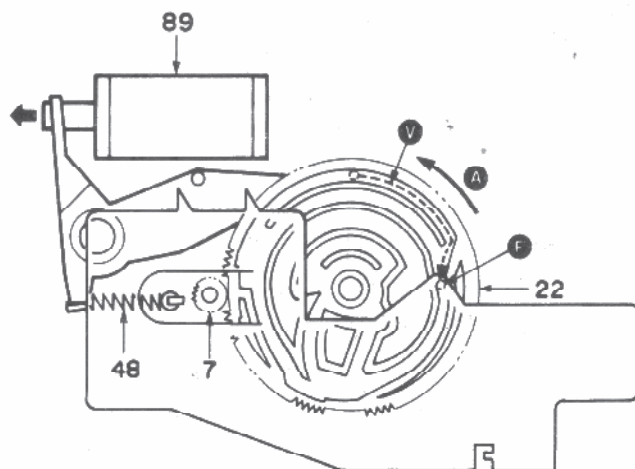

Fig. 15
- 1-2) By a signal from the microcomputer, the SOLENOID (89) turns OFF.
- 1-3) The FD ARM (12) is swung by the SPRING (48), and the FD GEAR (22) is pushed by the SUB CHASSIS and rotated in direction (A).
- 1-4) The FD GEAR meshes with the GEAR (7) of the FLYWHEEL, and starts to rotate. The pin (E) of the SLIDER (11) passes through the orbit (V) and stops at position of Fig. 15.